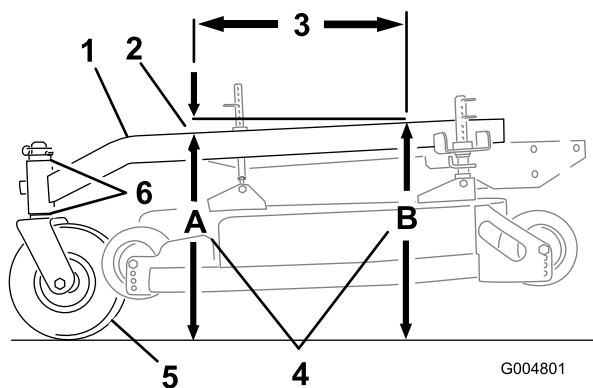

Figure 63
The carrier frame must have a pitch between 1/8 inch (3 mm) to 3/8 inch (9 mm) over the length of 24 inches (61 cm) on the carrier frame (Figure 63).
1. Measure out 24 inches (61 cm) on the carrier frame (Figure 63).
- Measure carrier frame height at location **A** (Figure 63).
- Measure carrier frame height at location **B** (Figure 63).
- The height at location **A** must be a 1/4-3/8 inch (6 mm -10 mm) lower than location **B** (Figure 63).
- If the carrier frame is not correct, move caster spacers to make it a 1/4-3/8 inch (6 -10 mm) pitch (Figure 63). Move spacers from top or bottom to make the correct pitch.